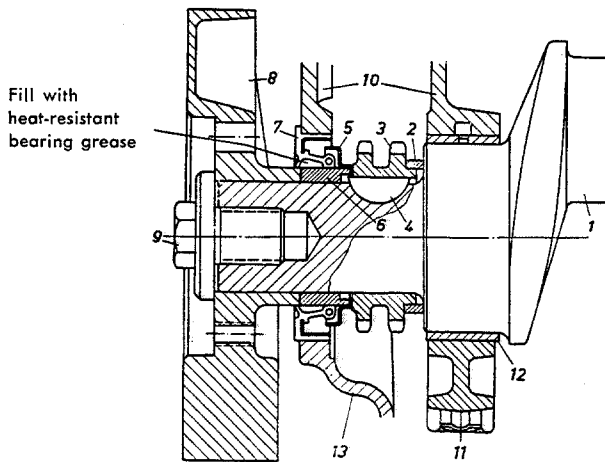

Fig. M 3/53
53. Push oil thrower, spacer ring and grease retainer on crankshaft journal (Fig. M 3/53).